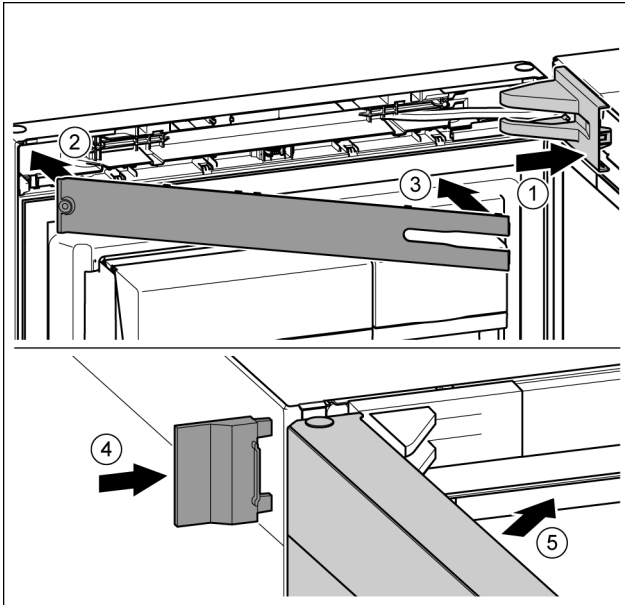

Fig. 49
- Position the bearing bracket and engage. If necessary push apart carefully. Fig. 49 (1)
- Position the panel. Fig. 49 (2)
- Swing in the panel and click into place. Fig. 49 (3)
- Slide on the external cover. Fig. 49 (4)
- Close the upper door. Fig. 49 (5)